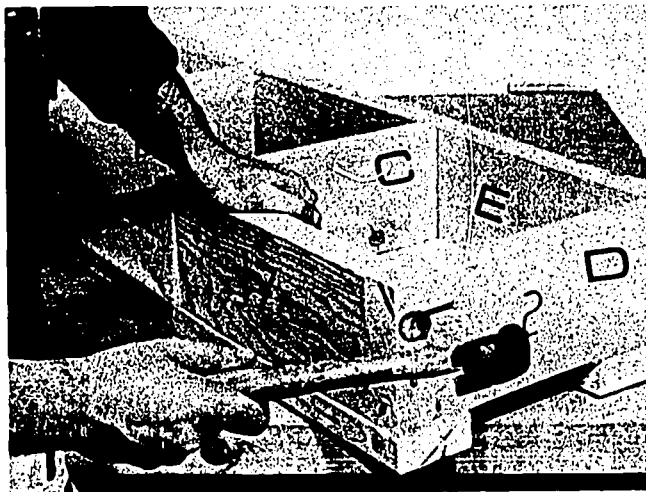

Fig. 47C-3. Nailing Solid Bridging
5. Measure the distance between the inside faces of Joists C and D. See Fig. 47C-1. This distance should be $14\frac{3}{8}$ ". Saw the 2" x 6" piece to this length and mark it "Solid Bridging."
6. Nail the solid bridging into place with 16d nails between Joists C and D as shown in Fig. 47C-3.